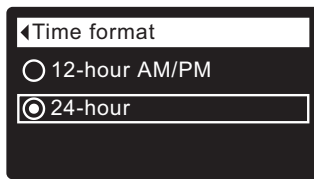

FIG. 65
1. From any of the rolling status screens, press the SELECT (O) button to display the **Main menu**.
3. Press the SELECT (O) button to display the User preferences menu.
5. Press the SELECT (O) button to display the Time format menu (See Figure 65).
6. If the desired time format already has a dot next to it (See Figure 65), go to Step 7. Otherwise, press the DOWN (▼) or UP (▲) buttons to scroll to the other time format, then press SELECT (O) to choose it.
7. Press the SELECT (O) button. The display will go back to the User preferences menu.